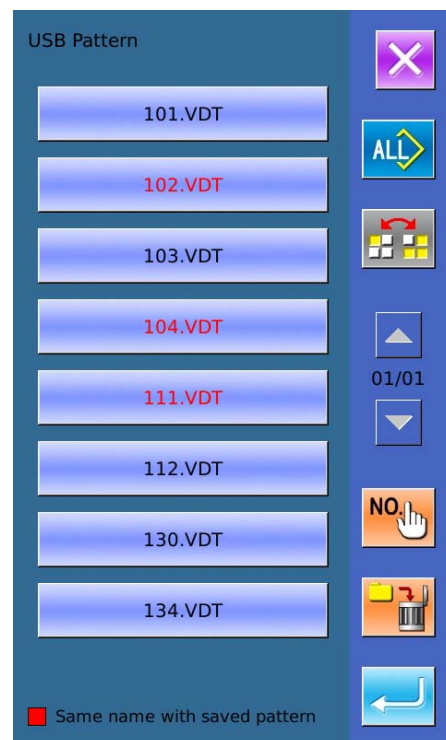

Figure 1
② Press button A to enter the interface for inputting patterns from U Disk
**Note:** If the pattern in U disk has the same name to the pattern within the panel, the pattern number will be displayed in red. The pattern with red code can only be inputted with button F, as shown in figure 1